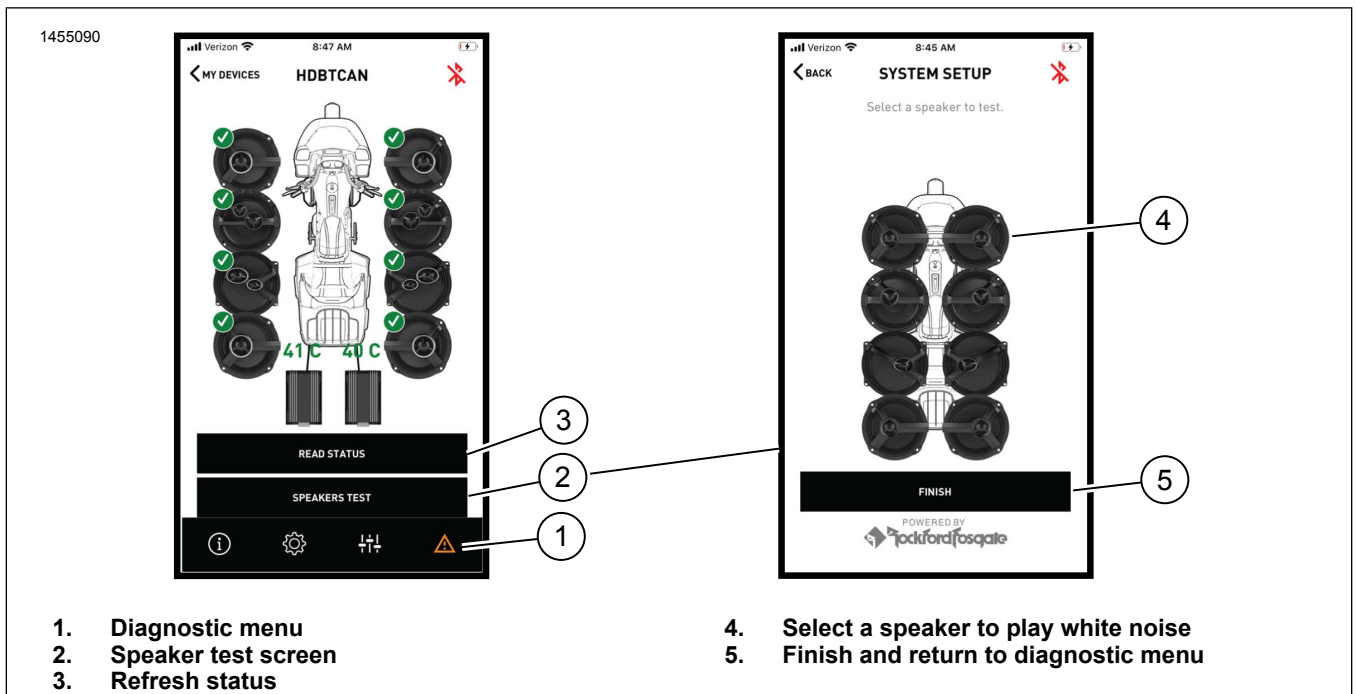

Figure 18. Diagnostic Menu
- 5. See Figure 18. Diagnostic menu screen.
- a. Diagnostic menu icon (1) displays sound system status.
- b. Open the speaker testing screen (2).
- c. Refreshes speaker and amplifier status (3) after component repair.
- d. Select speaker for white noise (4) test and functionality.
- e. Return to diagnostic menu screen (5).